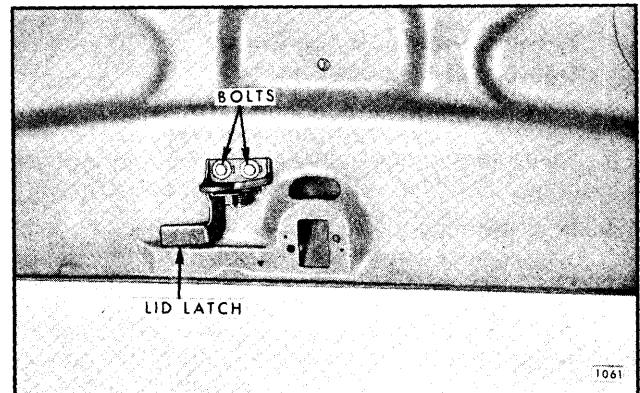

Fig. 8-12—Engine Compartment Lid Latch Assembly - "Z" Styles
2. Remove two bolts securing latch to engine compartment inner panel and remove assembly from body (see Fig. 8-12).